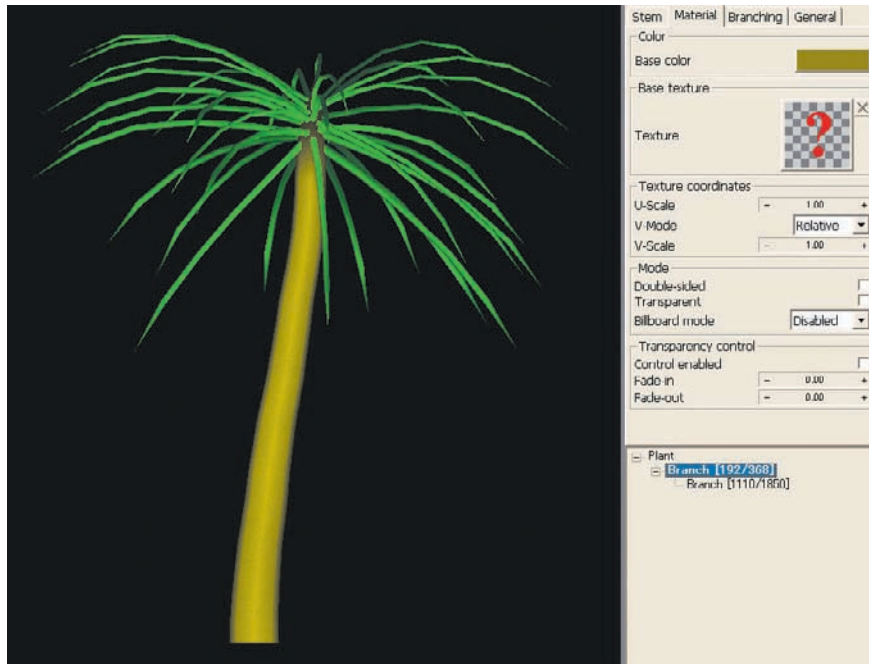

Figure 7.32 Setting the base colors
- Now is a good time to add a little bit of color. Go to the Material tab and click the Base Color button to open up a color picker, and then set the color for these branches. Do the same for the trunk by selecting the appropriate branch level in the tree structure window and setting a color in the Material tab, as shown in Figure 7.32.